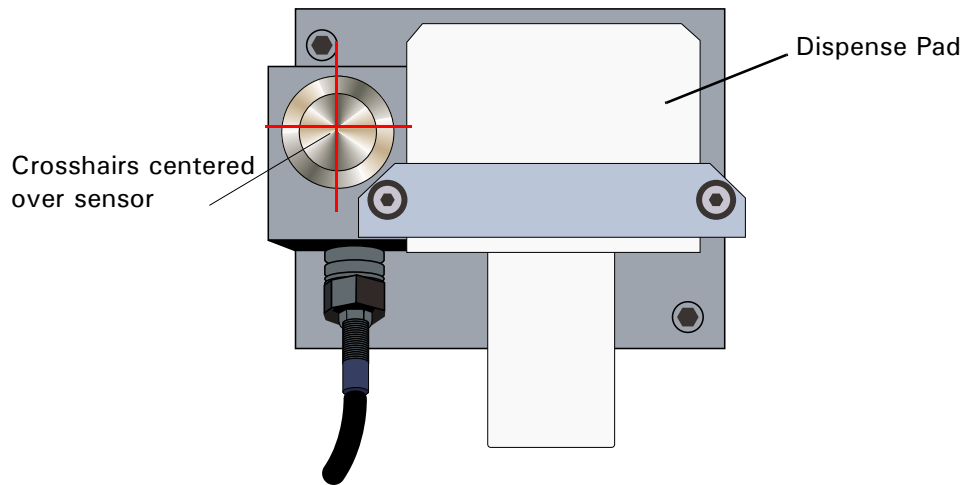

Figure 6-37
- Using the trackball, move the head until the intersection of the crosshairs is aligned over the center of the Needle Calibrator sensor. See Figure 6-37.